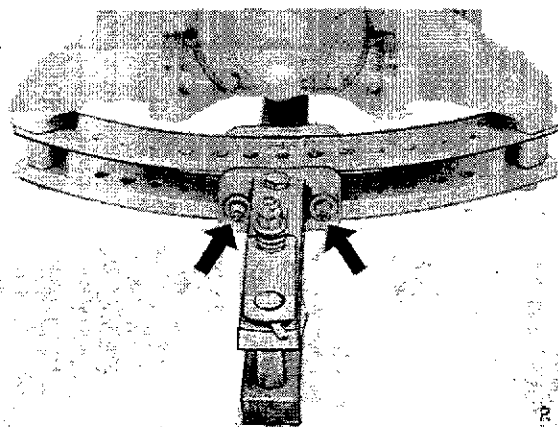

Fig. 2-Wide Swing Drawbar Grease Fittings
2. If tractor is equipped with a wide-swing drawbar (Fig. 2), apply several shots of John Deere High Temperature Grease or its equivalent to drawbar rollers.